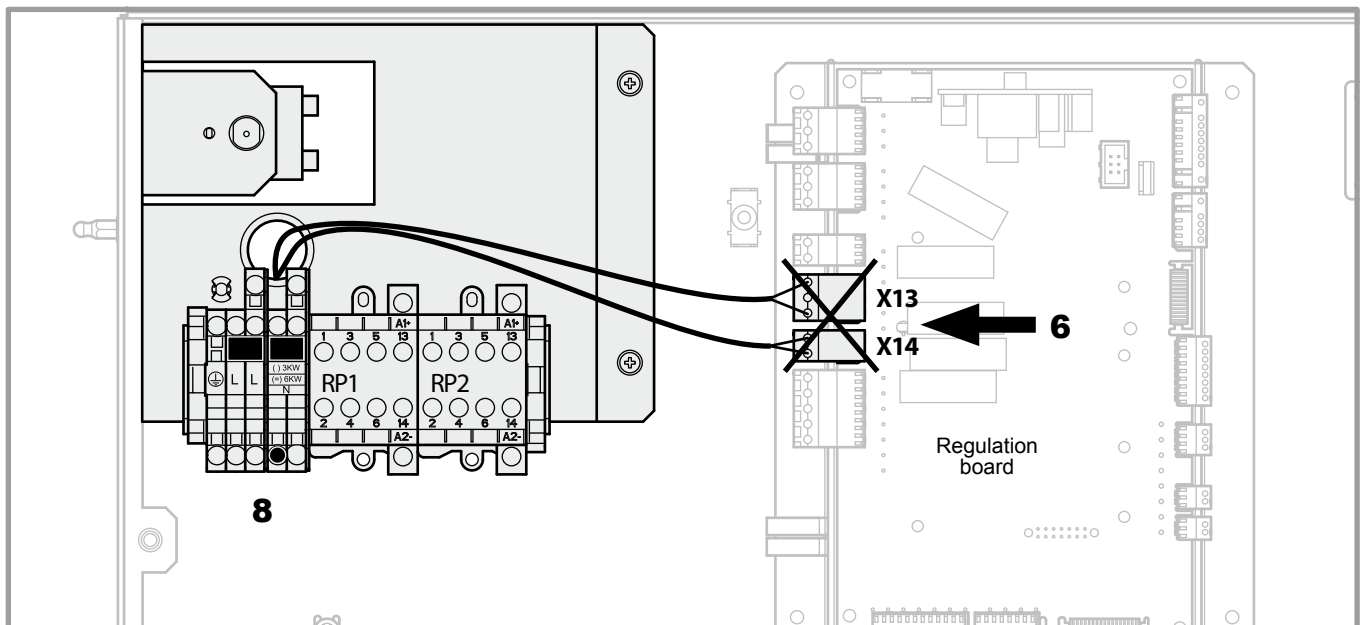

figure 8 - Disconnection of the single phase electrical back-up
- **6** - Disconnect the **X13** and **X14** connectors (single phase electrical back-up, see figure 8).